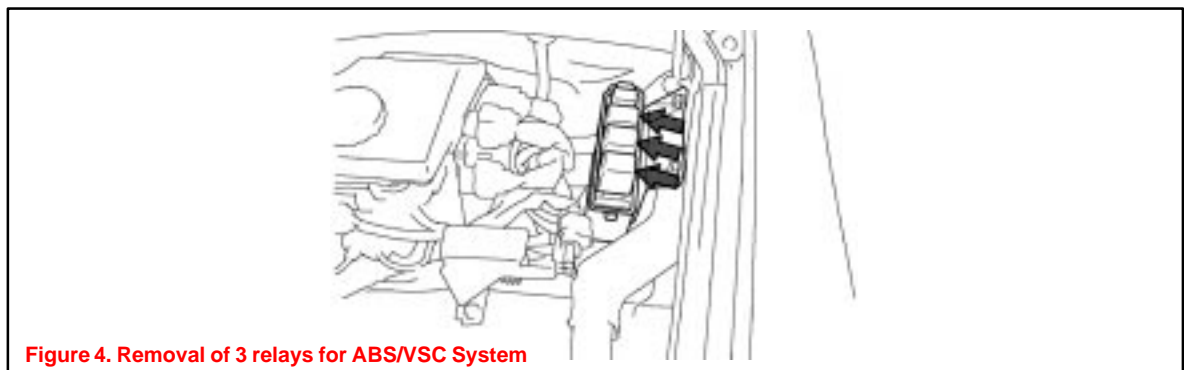

Figure 4. Removal of 3 relays for ABS/VSC System
2. Remove the 3 relays for the ABS/VSC system (see Figure 4).
6. Reinstall the 3 relays for ABS/VSC system (see Figure 4).